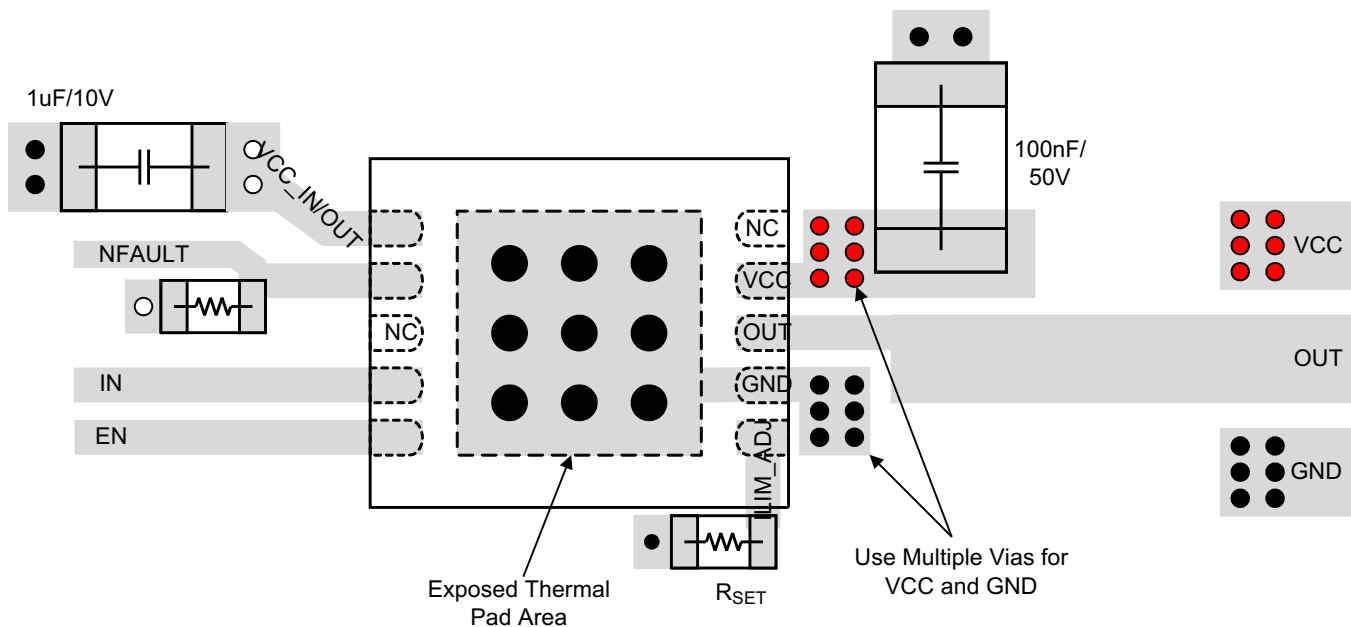

Figure 26. Layout Example
- The optimum placement of the capacitor is closest to the VCC and GND terminals to reduce supply drops during large supply current loads. See Figure 26 for a PCB layout example.